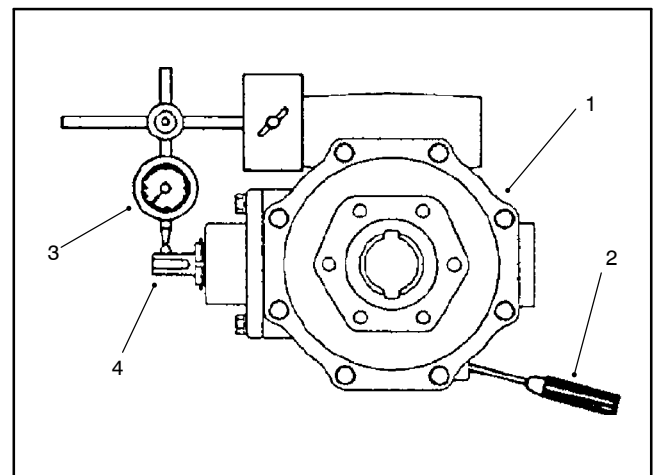

Figure 29
10. Insert a screwdriver through the drain plug hole to hold ring gear and measure the pinion gear to ring gear backlash (Fig. 29).